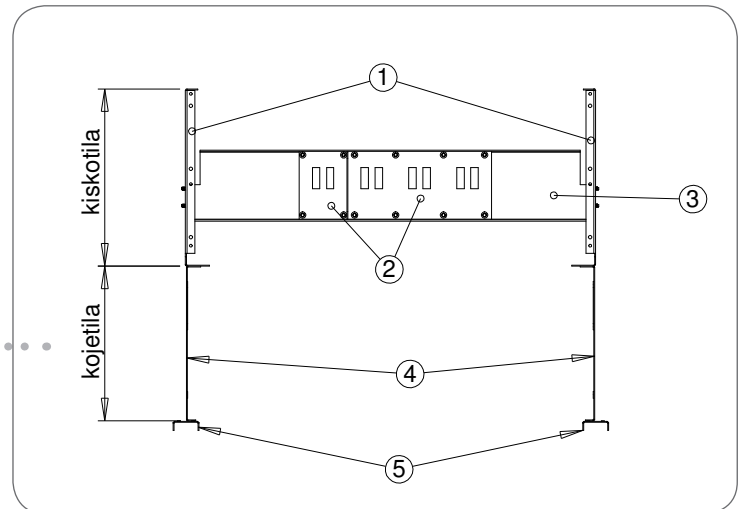

Fig. 2.9 Installing vertical busbar holder and insulator to frame plates.
The vertical busbar holders (4) are fastened to the frame plates (1) as described above. Figure 2.9 shows the fastening of vertical busbar holders (4) and insulators (2) to the frame structure.